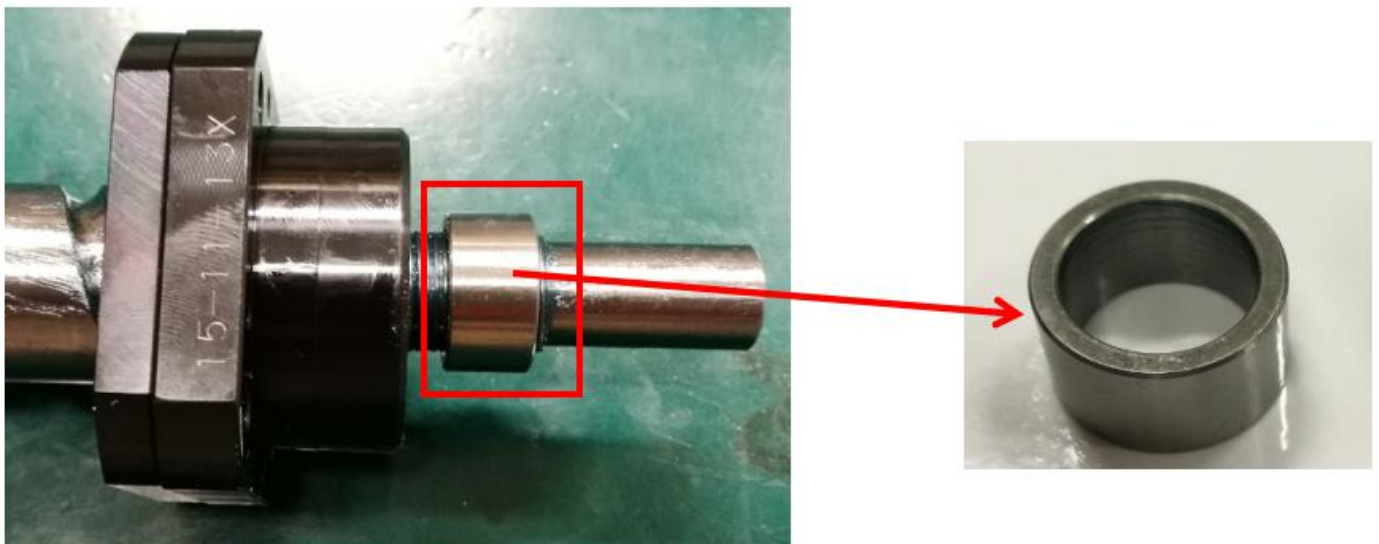

Figure 39 Silver spacer assembly
31. Gently slot in silver spacer as below Figure 39.